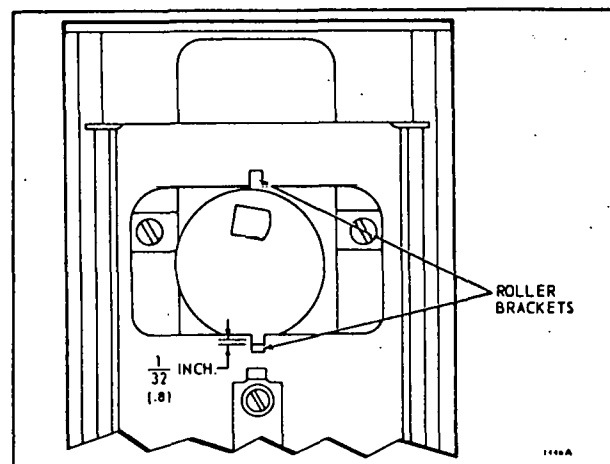

FIG. 6—FOR TIGHT CLOSE-OFF, THE ROLLER BRACKET ON THE LINKAGE MUST BE DEPRESSED AT LEAST 1/32 INCH [.8 MM] AT THE END OF THE MOTOR'S STROKE.
3. The valve must close off tightly at the bottom of its stroke (both ends of stroke for 3-way valve). Check for at least 1/32 [.8 mm] deflection of the roller bracket in closed position (Fig. 6).